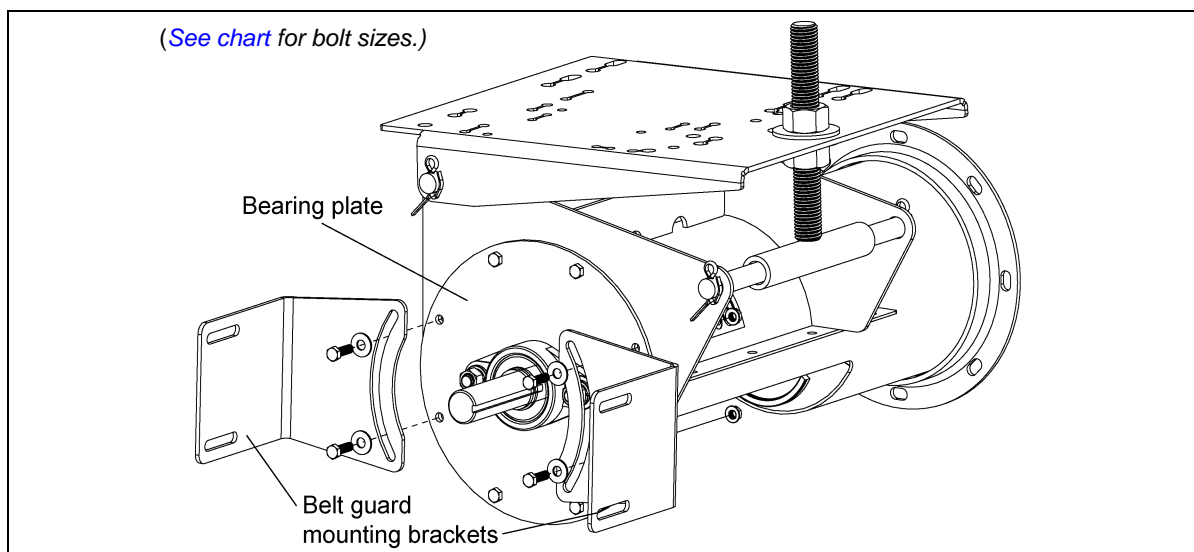

Figure 4I
2. Secure the brackets with proper bolts, flat washers and serrated flange nuts. (*See Chart below and Figure 4I.*)